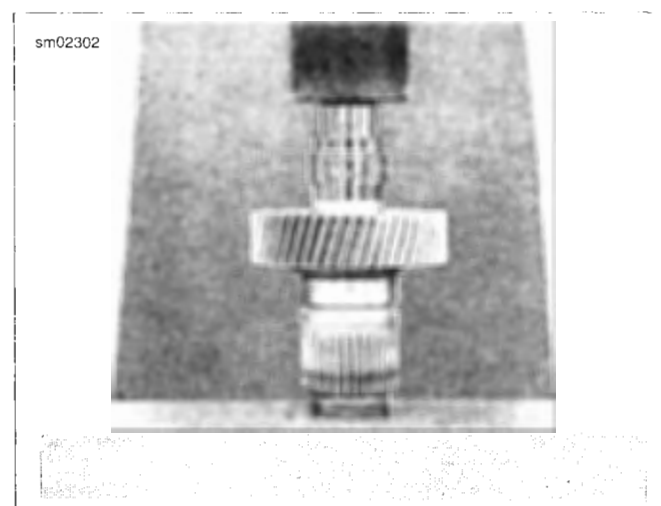

Figure 6-40. Installing Transmission Side Needle Bearing in Main Driver Gear
6. See Figure 6-40. Turn over the main drive gear in the arbor press. With the tool at the 0.188 in. step, press inner bearing until tool contacts gear.